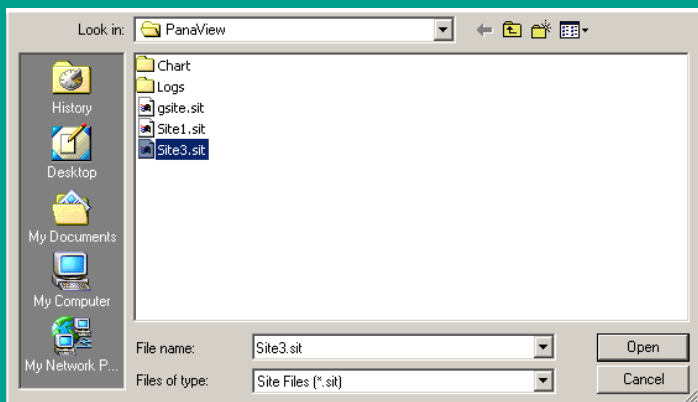

Figure 32: Site file selection
2. Then click on the *save site to meter* button. A screen opens similar to figure 32.
3. The *site file selection* window (figure 32) opens. Highlight a site with the desired settings, and click [open]. PanaView saves the site in the meter with the new name and the desired settings.
3. The *site file selection* window opens (refer to figure 32).